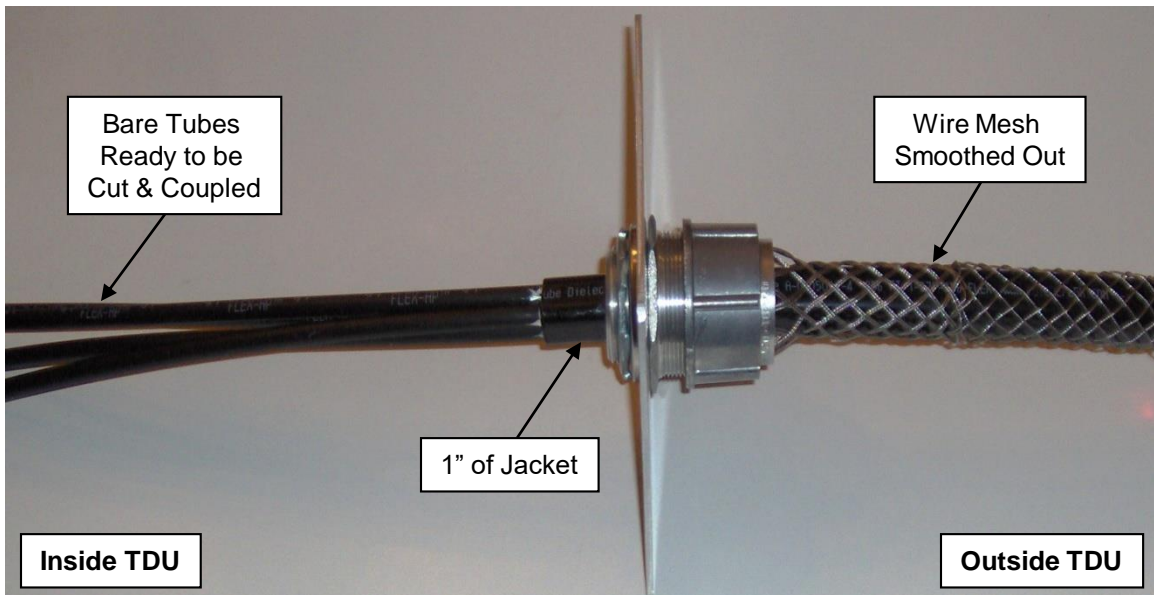

Figure 6
8.4 Slide neoprene bushing, wire mesh, and compression nut forward until they mate with body's threads. **See Fig. 6.**